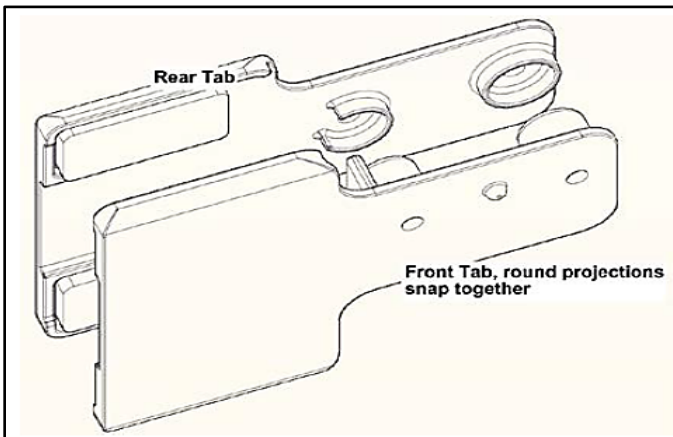

Figure 43
8. Replace with the new breakaway tabs and re-assemble. (See Figure 43).